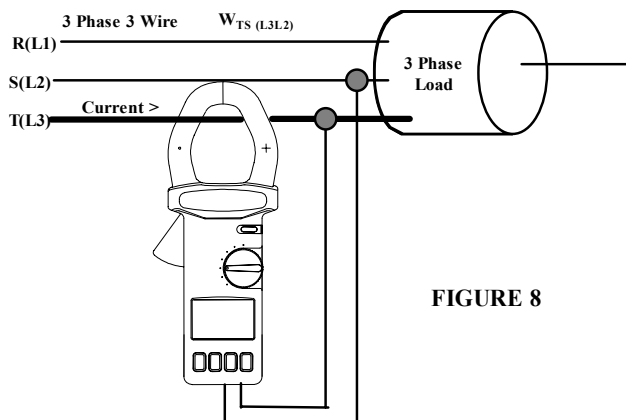

FIGURE 8
2. Secondly, measure  $W_{TS}$  (or  $W_{L3L2}$ ). Refer to Fig. 8.